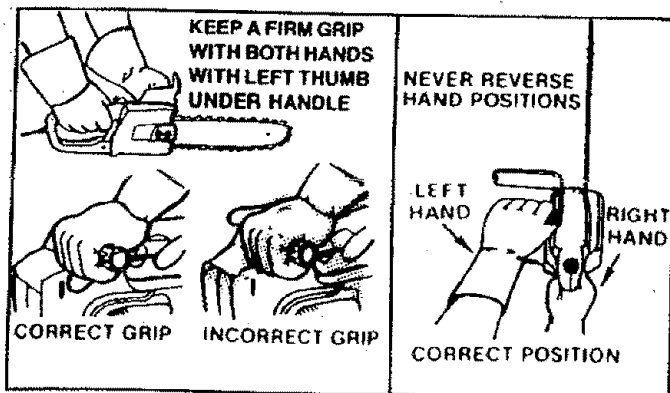

Figure 3
1. Keep a good firm grip on the saw with both hands when the motor is running and don't let go. Figure 3. A firm grip can neutralize kickback and help you maintain control of the saw. Keep the fingers of your left hand encircling and your left thumb under the front handle. Keep your right hand completely around the rear handle whether you are right handed or left handed. Keep your left arm straight with the elbow locked.
2. Never reverse right and left hand positions. Figure 3.
4. Stand slightly to the left side of the saw, to keep your body from being in a direct line with the cutting chain. Figure 3.